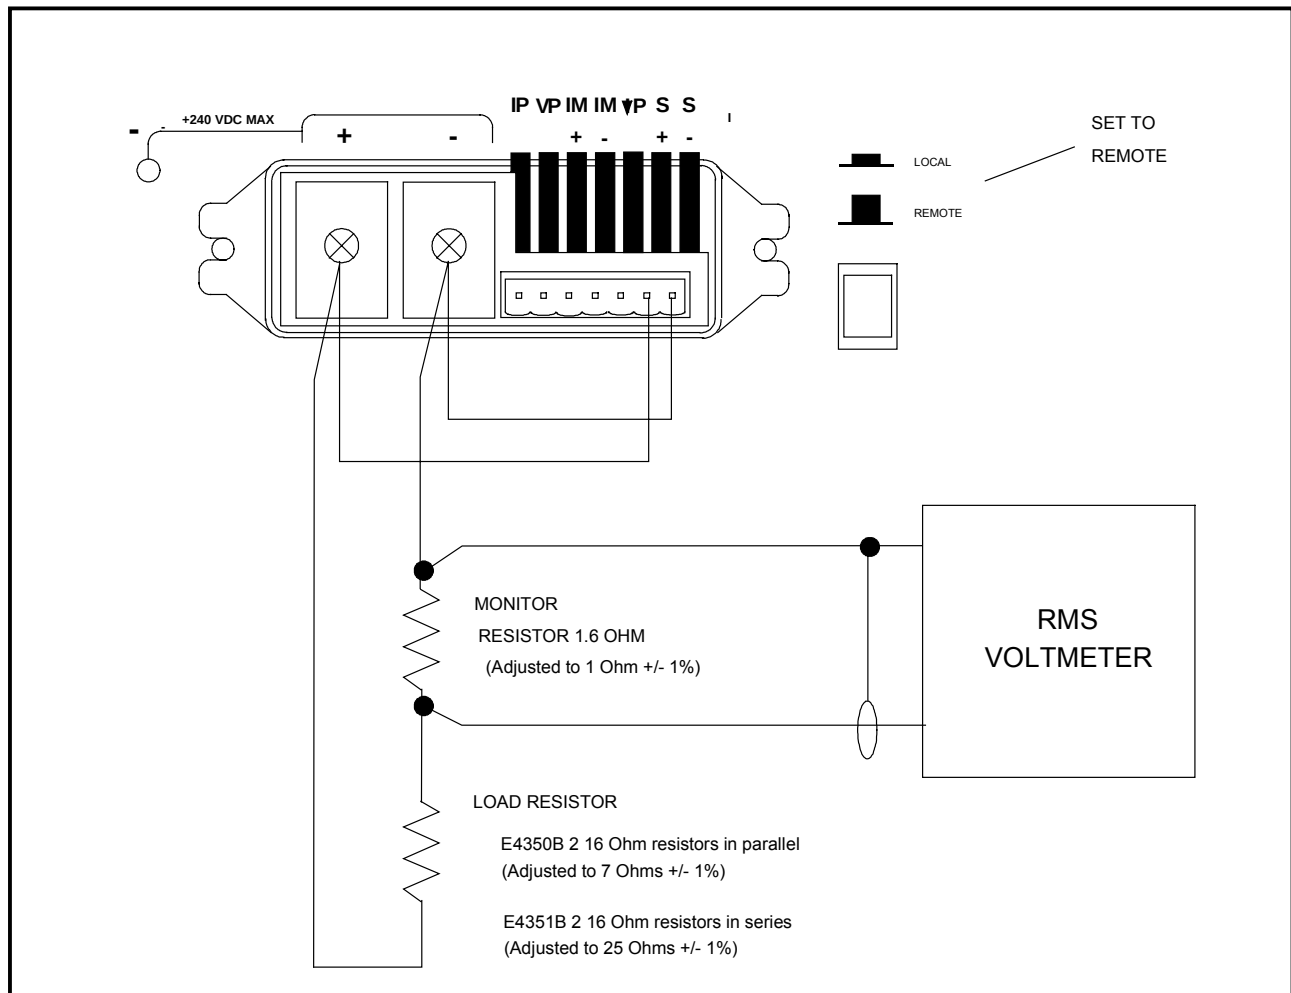

Figure 2-3. CC RMS Noise Measurement Test Setup
- CC RMS Noise Measurement Setup (Figure 2-3)
* Enter your results in this column ** PARD (Optional Test in SAS mode) Program I – V Curve: $I_{SC} = 8\text{A}$ $I_{MP} = 7.5\text{A}$ $V_{MP} = 60\text{V}$ $V_{OC} = 65\text{V}$ $R_L = 8 \text{ Ohms}$. Use Fig 2-3 with scope across monitoring resistor for P-P ripple or RMS voltmeter for RMS.
* Enter your results in this column ** PARD (Optional Test in SAS mode) Program I – V Curve: $I_{SC} = 4\text{A}$ $I_{MP} = 3.75\text{A}$ $V_{MP} = 120\text{V}$ $V_{OC} = 130\text{V}$ $R_L = 32 \text{ Ohms}$. Use Fig 2-3 with scope across monitoring resistor for P-P ripple or RMS voltmeter for RMS.